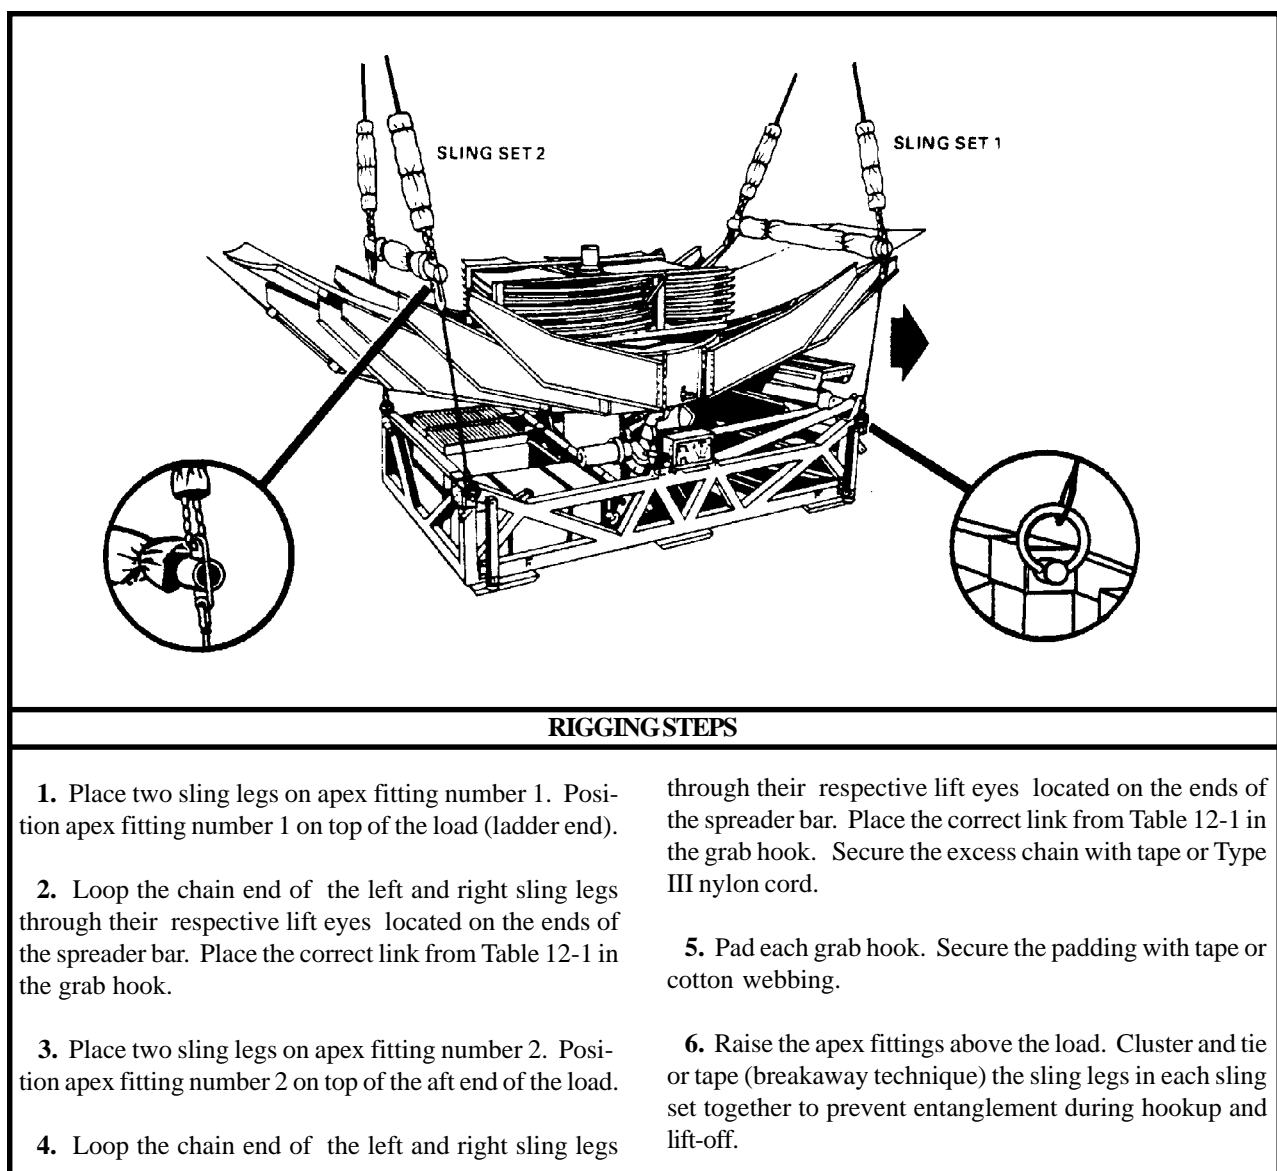

Figure 12-1. OE 361/G Quick Reaction Satellite Antenna
(2) Rigging. Rig the load according to the steps in Figure 12-1.